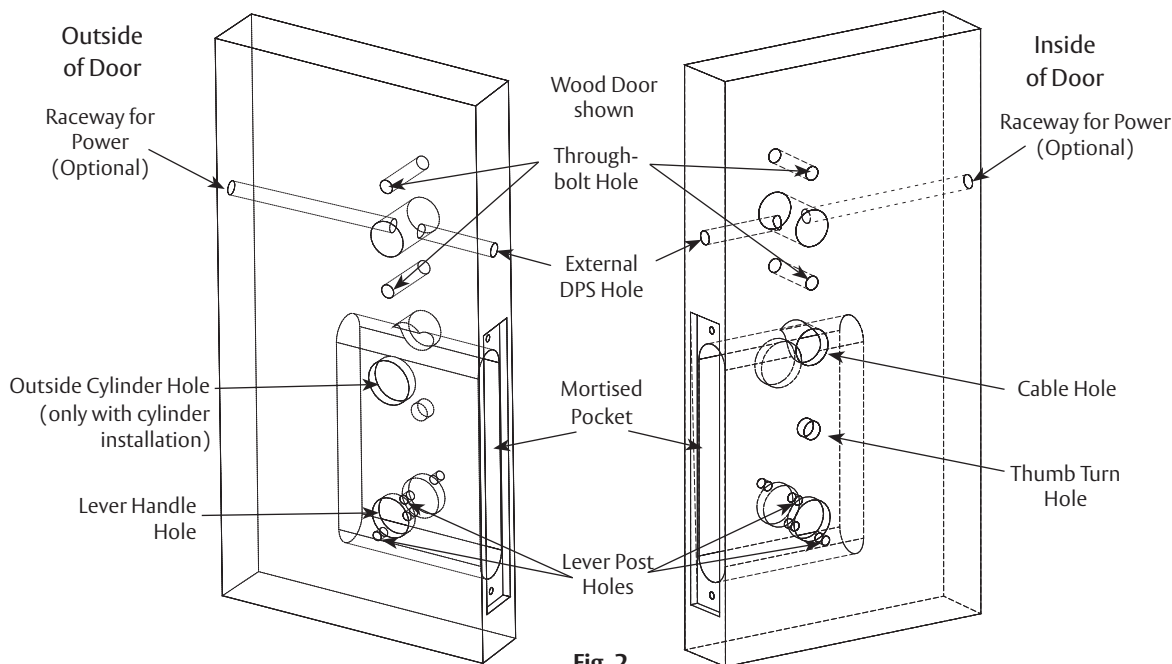

Fig. 2
- Prepare door (Figure 2) according to appropriate template: